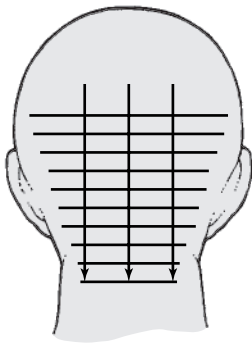

FIGURE 25 | Weight line at perimeter.
- *Horizontal* lines are parallel to the horizon or floor and direct the eye from one side to the other. Horizontal cutting lines build weight and are used to create a one-length look and low-elevation or blunt haircut designs. These *weight lines* are usually created at the perimeter or at the occipital area of a haircut (Figures 25 and 26).